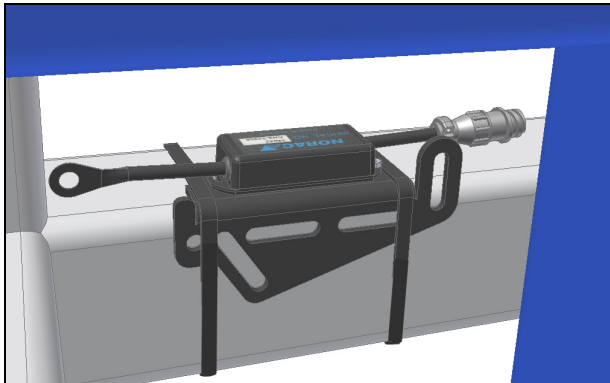

Figure 14 – chassis roll sensor mounting
1. It is often best to cable tie the chassis roll sensor in place. When mounting the chassis roll sensor follow the guidelines and refer to **Figure 14**.